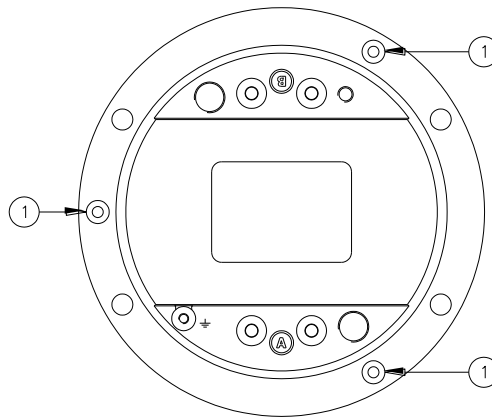
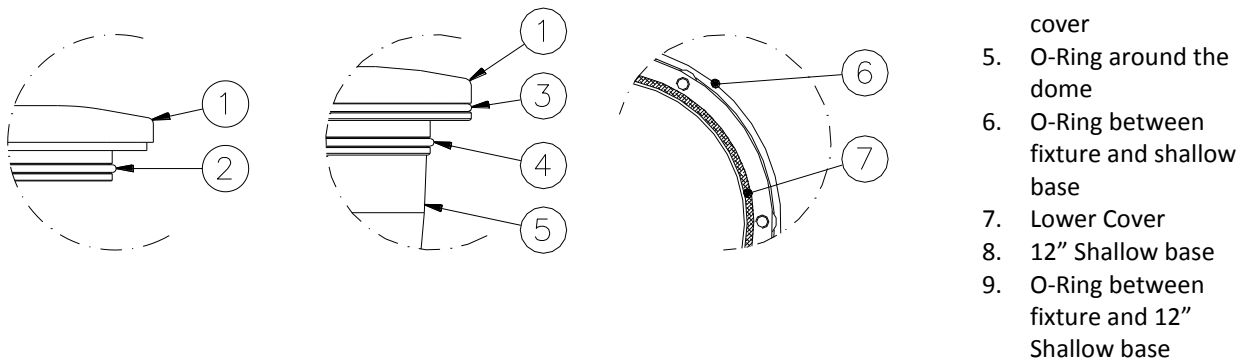

Figure 19 - Lower Cover Fixing Screws
Figure 21 – Fixture Gaskets
- Open the fixture by unscrewing the three locking screws HSFH M5x10 (Figure 19 - n°1).
- three locking screws HSFH M5x10 (Figure 19 - n°1);
- O-Rings between dome and lower cover (Figure 21 – n°2);
Verify the correct position of O-Ring between dome and lower cover (Figure 21 – n°2);, mount the lower cover on the dome and fasten it by means the three screws HSFH M5x10 (Figure 19 - n°1). One drop of anaerobic adhesive lower type (e.g. LOXEAL 24-18) should be applied to the screws before installation; tightening torque is 2.5 Nm.
- O-Ring around the dome (Figure 21 – n°3);
- O-Ring between fixture and 8" shallow base (Figure 21 – n°4);
- O-Ring between fixture and 12" shallow base (Figure 21 – n°7);